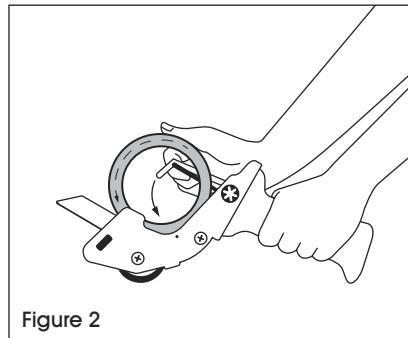

Figure 2
2. Place tape through tape bar and release tape bar to trap tape to dispenser. (See Figure 2)